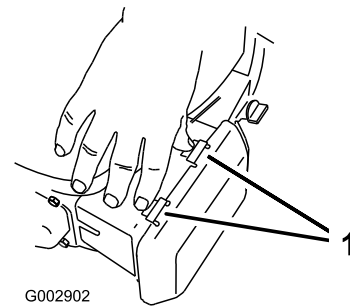

Figure 16
1. Press down on the latch tabs on top of the air-cleaner cover (Figure 16).
3. Remove the air-cleaner element (Figure 16).